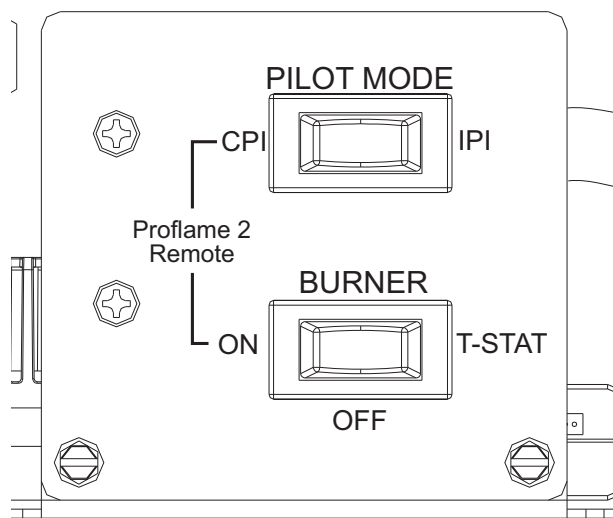

Figure 32. Correct Pilot flame pattern.
4. Once the pilot is lit, burner operation is controlled by the rocker switch located on the front panel. See fig. 32.